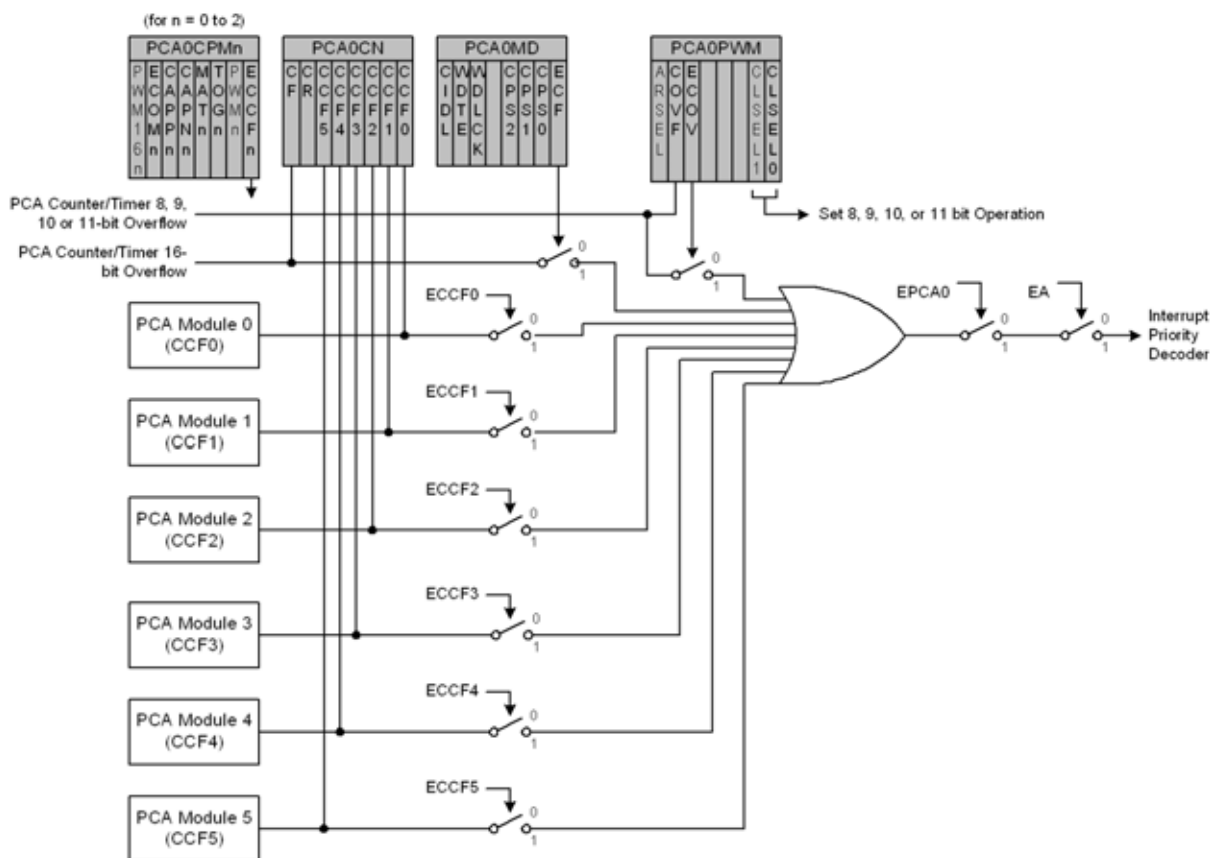

Figure 28.3. PCA Interrupt Block Diagram
Figure 28.3 shows a diagram of the PCA interrupt tree. There are five independent event flags that can be used to generate a PCA0 interrupt. They are as follows: the main PCA counter overflow flag (CF), which is set upon a 16-bit overflow of the PCA0 counter, an intermediate overflow flag (COVF), which can be set on an overflow from the 8th, 9th, 10th, or 11th bit of the PCA0 counter, and the individual flags for each PCA channel (CCF0, CCF1, CCF2, CCF3, CCF4, and CCF5), which are set according to the operation mode of that module. These event flags are always set when the trigger condition occurs. Each of these flags can be individually selected to generate a PCA0 interrupt, using the corresponding interrupt enable flag (ECF for CF, ECOV for COVF, and ECCFn for each CCFn). PCA0 interrupts must be globally enabled before any individual interrupt sources are recognized by the processor. PCA0 interrupts are globally enabled by setting the EA bit and the EPCA0 bit to logic 1.